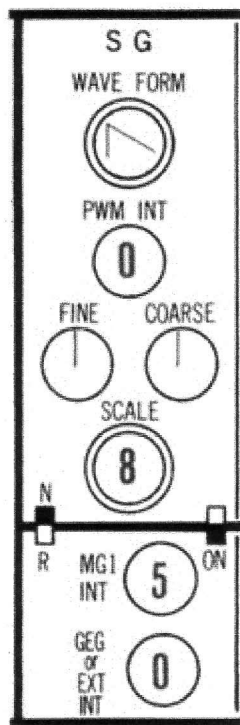

Figure 15 - MG1 and the SG module
(1) With the Signal Generator section set as shown in fig. 15, vary the waveform and frequency of MGA and listen to the different effects. (in the case of pink noise and white noise, the position of the Frequency Knob will not change the effect.) The easiest way of experimenting with this effect is to first turn off the Hold switch and then play a single key.